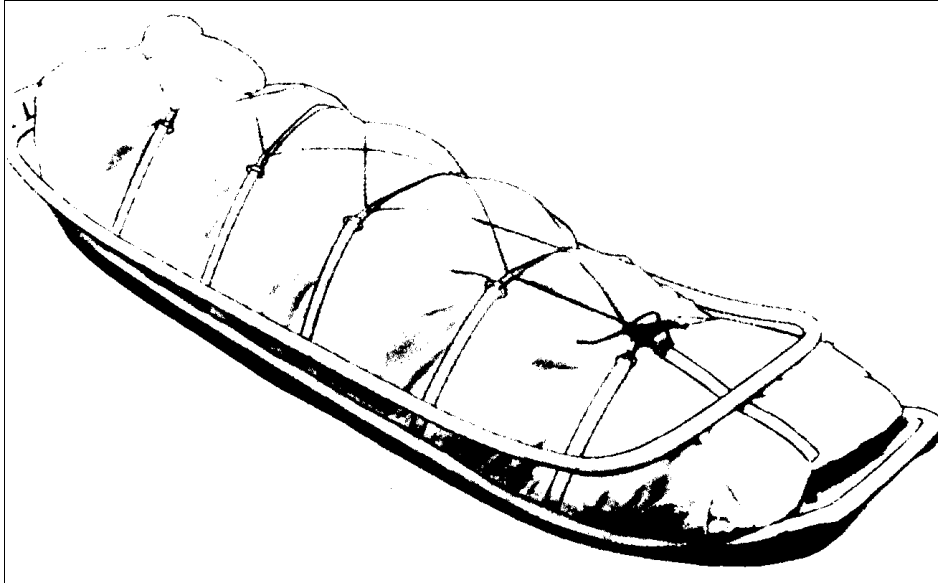

Figure 2-10 A Properly Lashed Toboggan
1. General. The two-man toboggan weighs approximately 35 pounds and has a load capacity of 250 pounds. The white nylon cover has 12 brass books around the edge which are used for lashing. There are five hooks on each side, one at the front, and one at the back. There are two runners and two tow rings, one at the front and one at the rear. Attached to the rear of the toboggan is a hooped handle-bar which can be folded over the toboggan. This handle-bar is used to assist in pushing and steering. Each toboggan normally has two sets of towing harness (similar to the harness provided with the one-man toboggan) (see Figure 2-10).
4. Lashing. Before a move, the toboggan must be correctly and securely lashed (see Figure 2-10). The drill is: